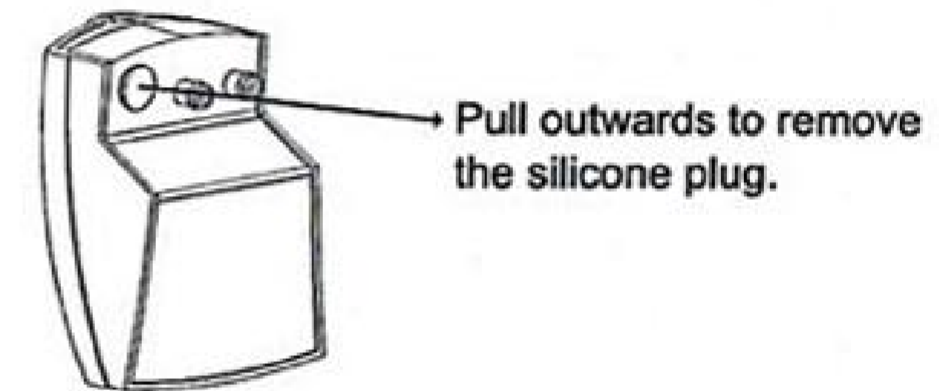

Fig. 11
(2) Remove the silicone plug (Fig. 11).